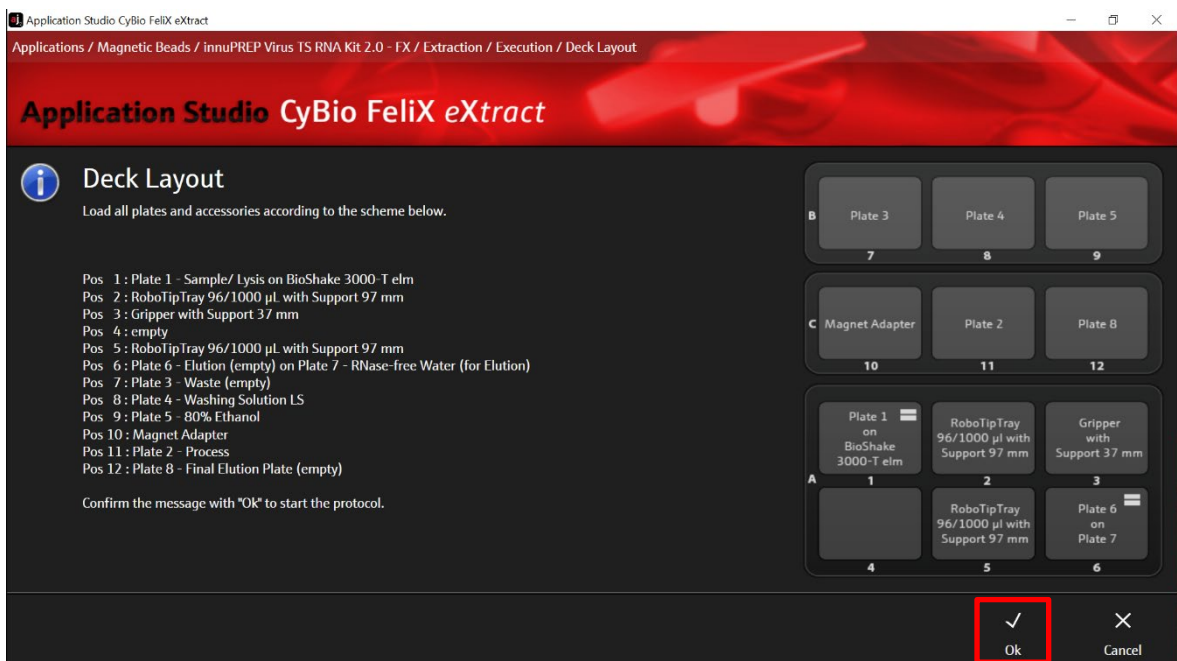

Figure 17: Deck layout for checking the correct positions of plates and accessories
9. Confirm the “Process completed” message with “Ok” (→ see Figure 17).